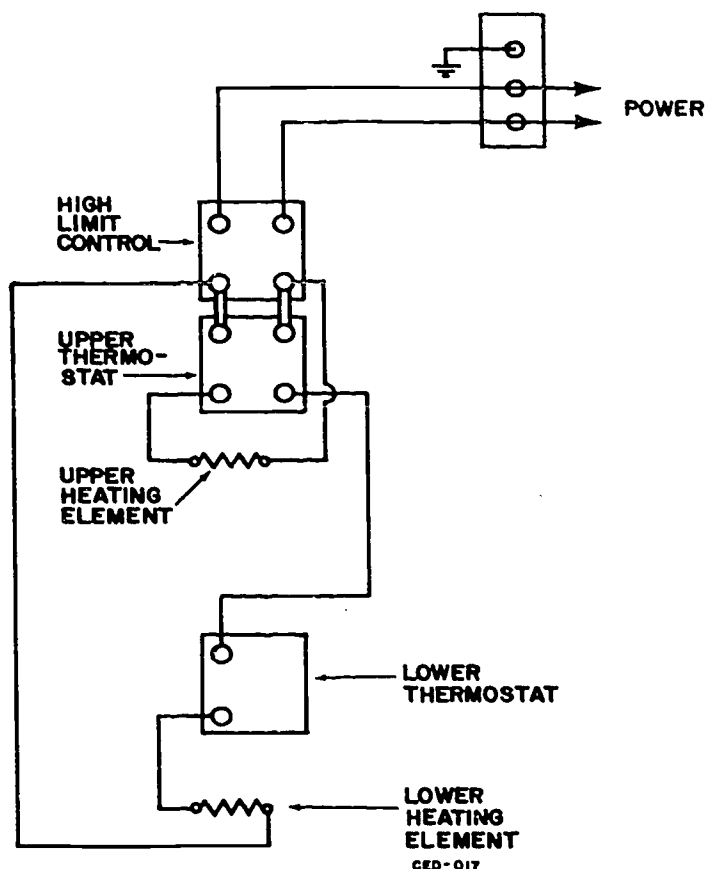

Figure 3-52. Water heater wiring schematic.
F., the most desirable water temperature for all purposes. In figure 3-52 you can see the wiring schematic of a dual-element water heater.